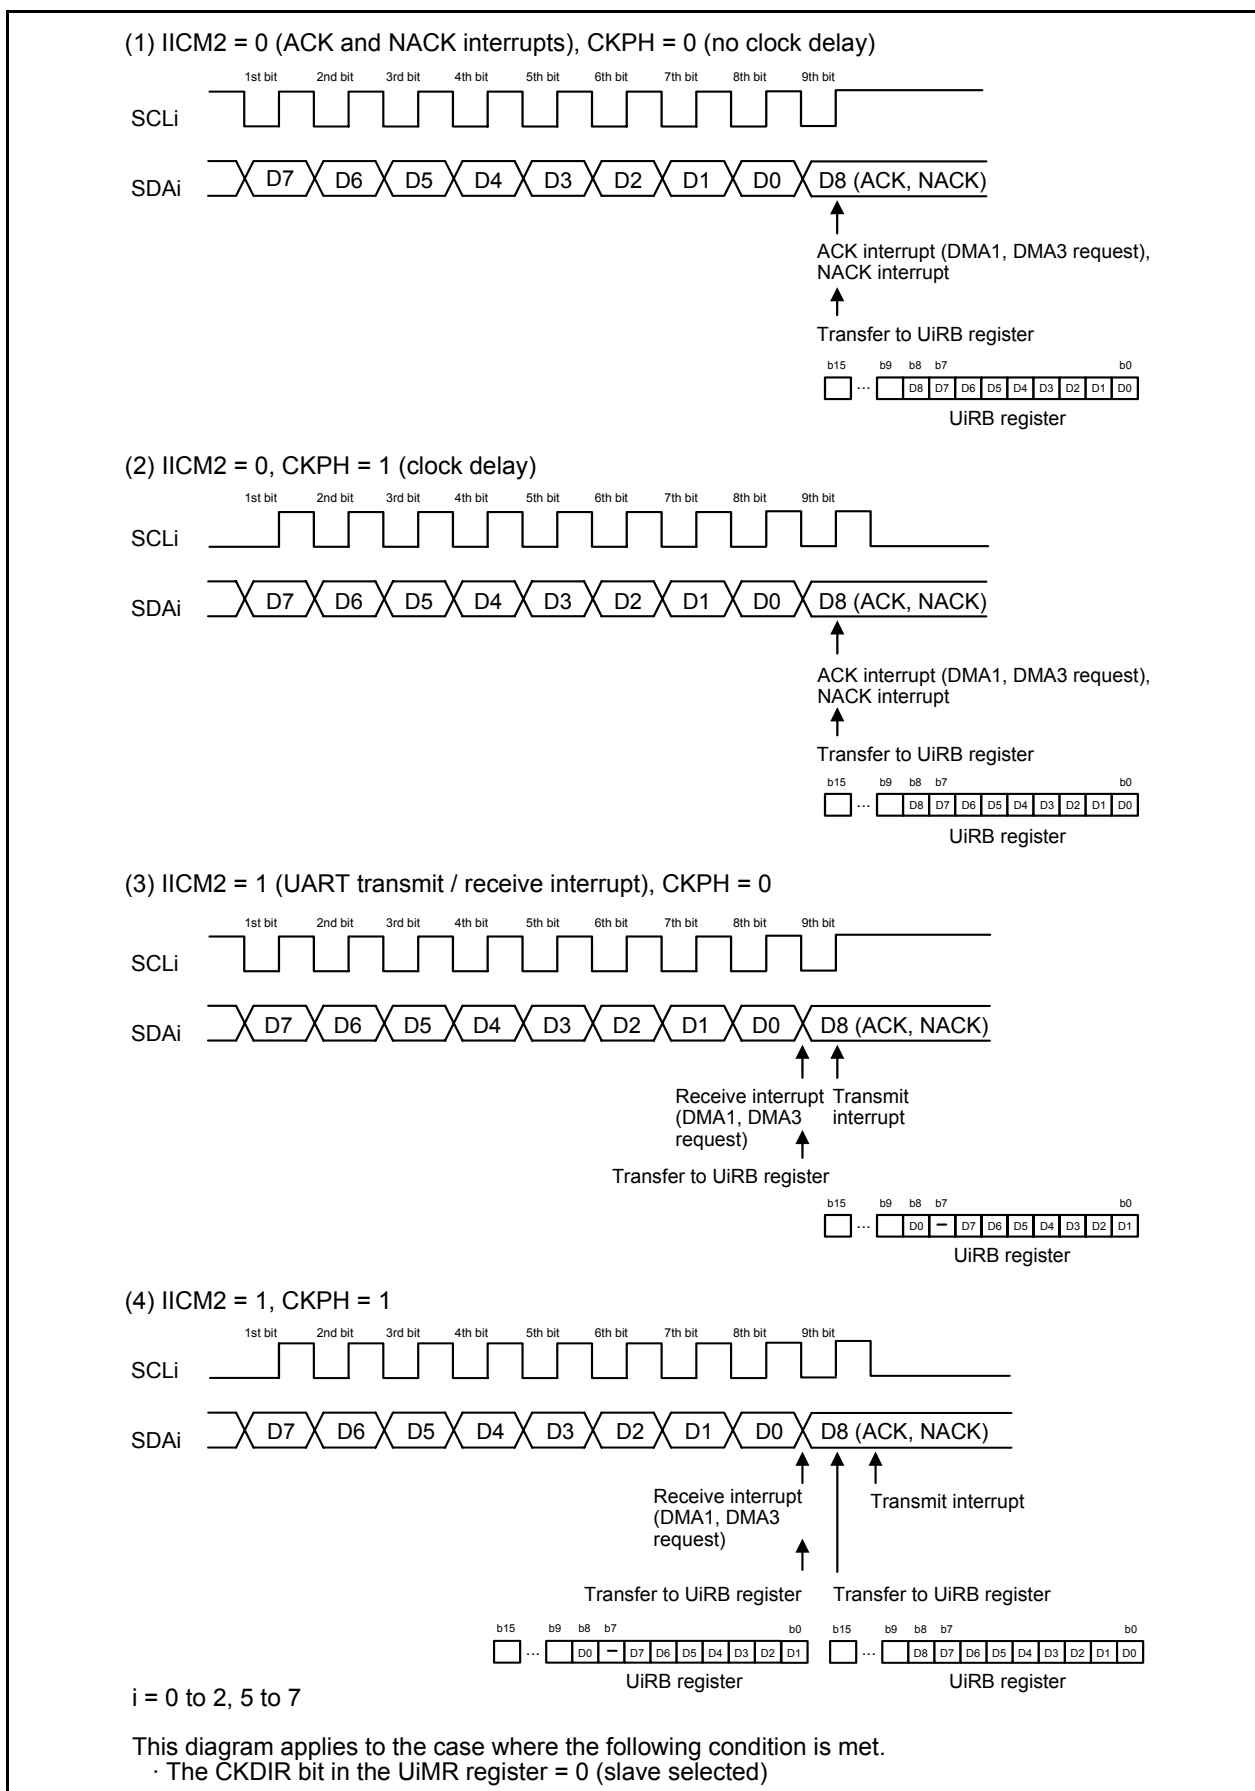

Figure 17.25 Transfer to UiRB Register and Interrupt Timing
6. See Figure 17.25 “Transfer to UiRB Register and Interrupt Timing”.
The transfer clock is used to transmit and receive data as is shown in Figure 17.25 Transfer to UiRB Register and Interrupt Timing.